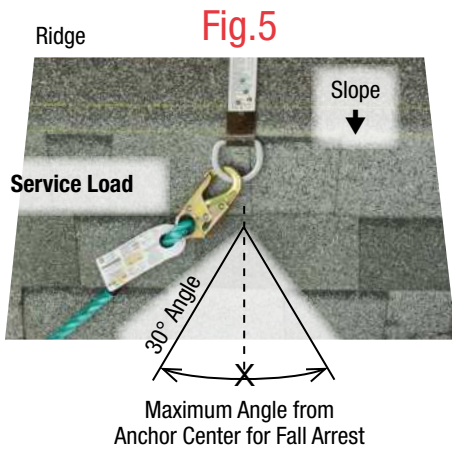

Fig. 5
**Fall Arrest:** When exposed to fall hazards do not exceed a 30° angle from the anchors parallel to slope position as shown at Fig. 5, 10a. Do not use on slopes greater than 8/12.